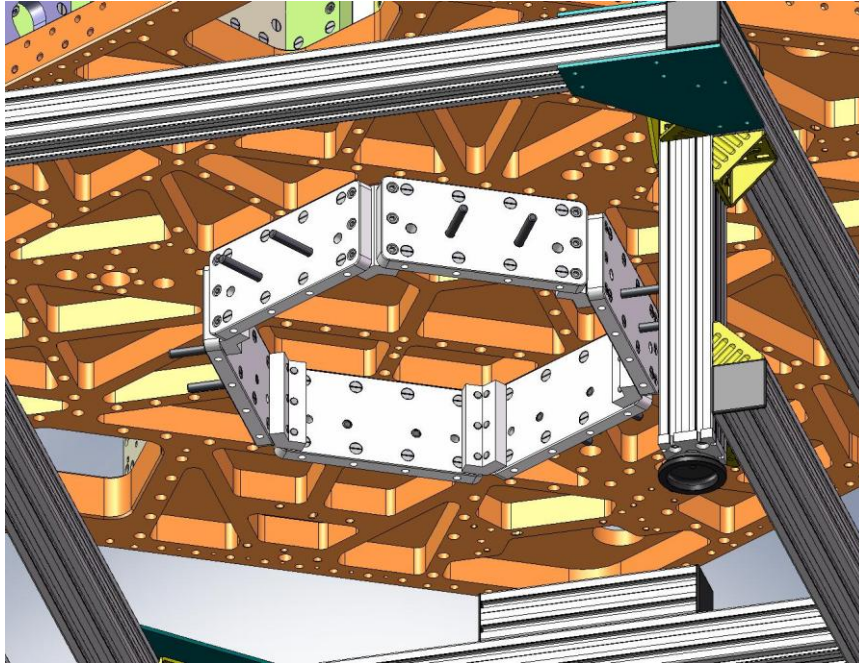

Figure 2.66. (24) Type 01 Barrel Nuts are placed in the holes lining the bottom of the Keel Walls.
- Place (24) **Type 01 Barrel Nuts** (D071250-01) into the holes lining the bottom of all (6) **Keel Walls**, as shown in Figure 2.66. The flats should face away from the screw holes.